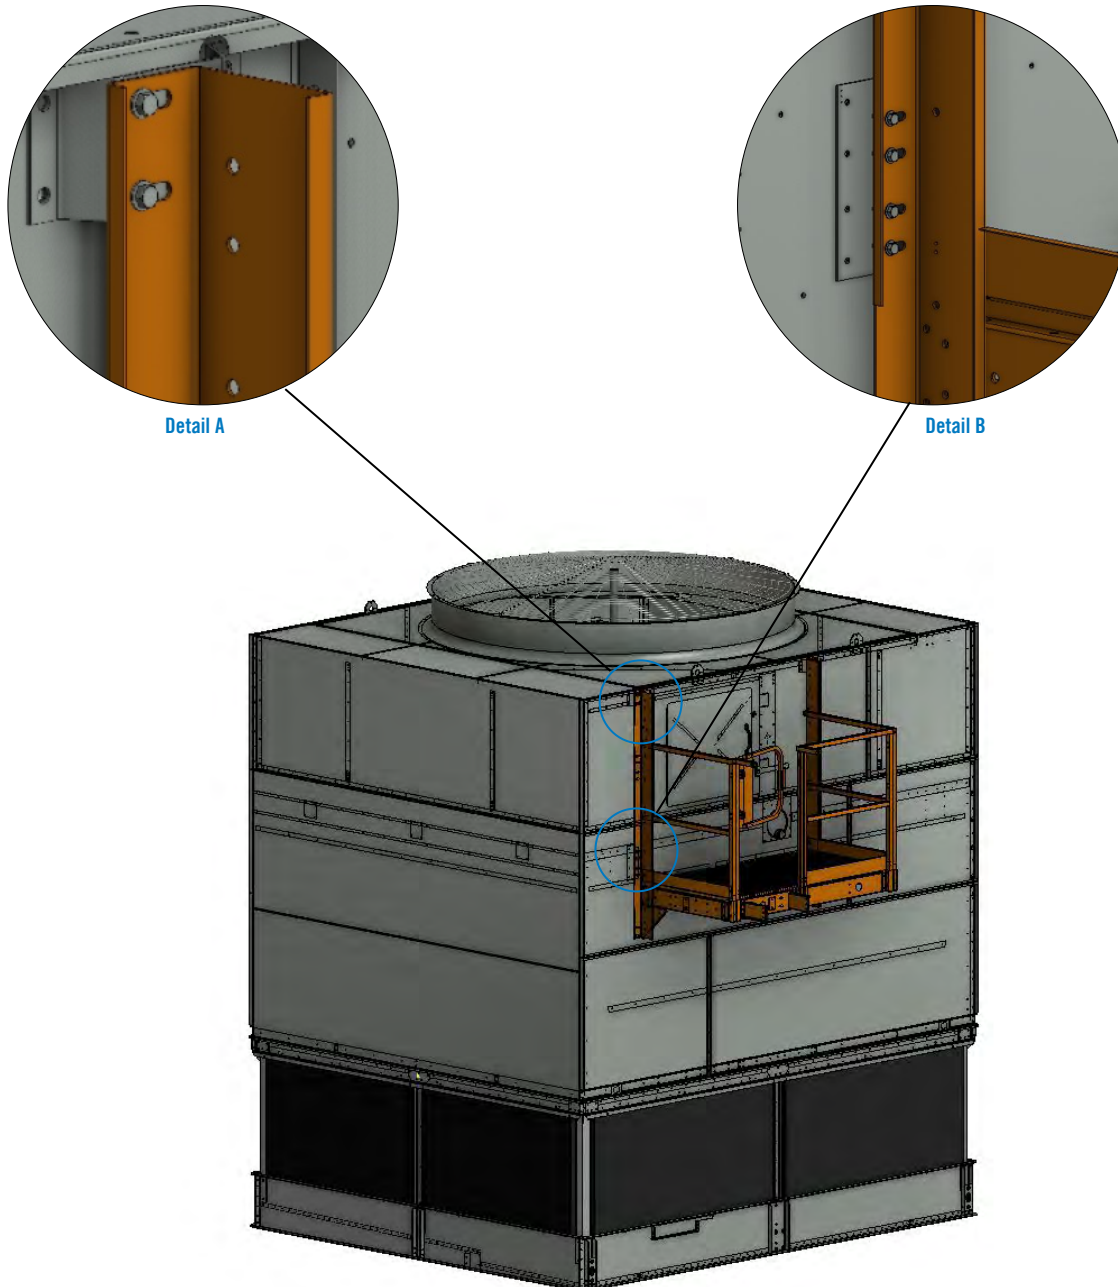

Figure 34. Mechanical Access Platform for One Cell PT2-0814 and PT2-1214 Units
Refer to **Figures 34 to 36** on **pages 25 to 27** for your unit platform assembly.
1. Lift the platform into place and align the platform support posts to the bracket. Secure the posts to the brackets using 3/8" bolts provided. See **Details A** and **B** on **Figures 34 to 36**.